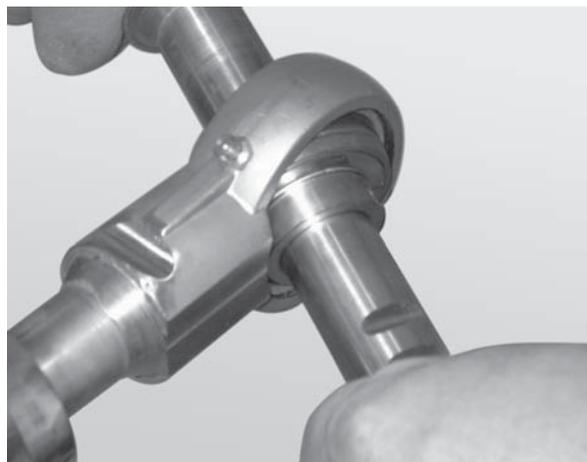

Figure 88
- Insert the rod end of another bearing shaft through the bearing orifice (**Figure 88**).